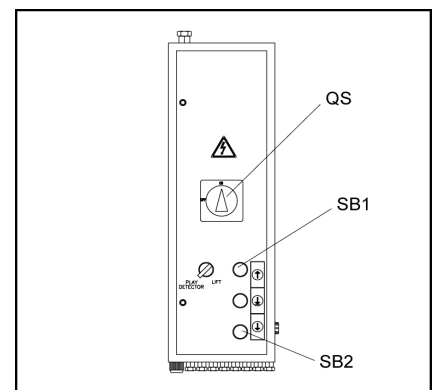
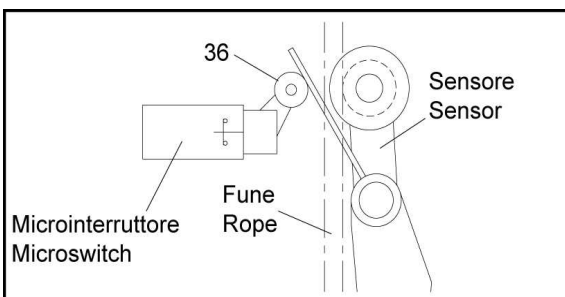

Fig.53 Control panel
Fig 55
Close the panel, put the switch (QS) in pos.1 and make the lift rise until clearing the wedges (A-B-C-D); then put the switch in position 0 and close them again. Put the main switch (QS in fig. 53) in position 1, press the lowering button (SB2) and check if the lift lowers. If this doesn't happen, check the adjustment of the four cable sensors (pos. 17, fig. 48) and, if necessary, adjust them by acting on the screw of the micro switch release lever (pos. 36, fig. 55).
Press LIFT button (SB1 in fig.53) and complete the lift cycle; during the cycle check that the cross-pieces slide freely and without undue rubbing friction (you may want to stop the lift motion every 20 or 30 cm to make this inspection easier). If you notice any malfunction during this operation, check that the posts are perfectly perpendicular.
When the lift cycle is completed, make sure that the lifting limit switch (pos.39, fig.55) is working properly and if necessary, adjust using the cam (40) on the cross-piece.